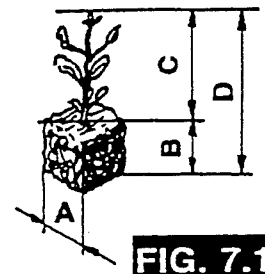

FIG. 7.1
- cubic, from 3x3 to 4x4 cm (fig. 7.1) with the special optional insert inserted in each cup (see chapter 26.5)